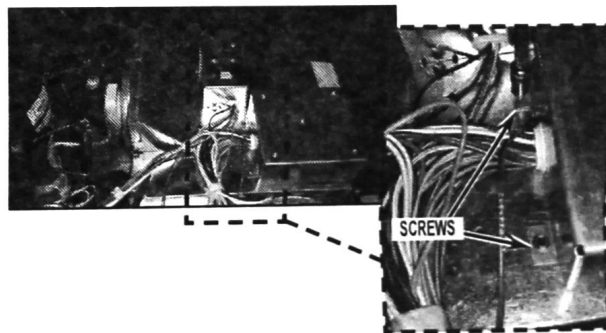

FIGURE 4
6. Remove the 2 screws attaching the old HV assembly to the condenser cover, set screws aside. See Figure 4.